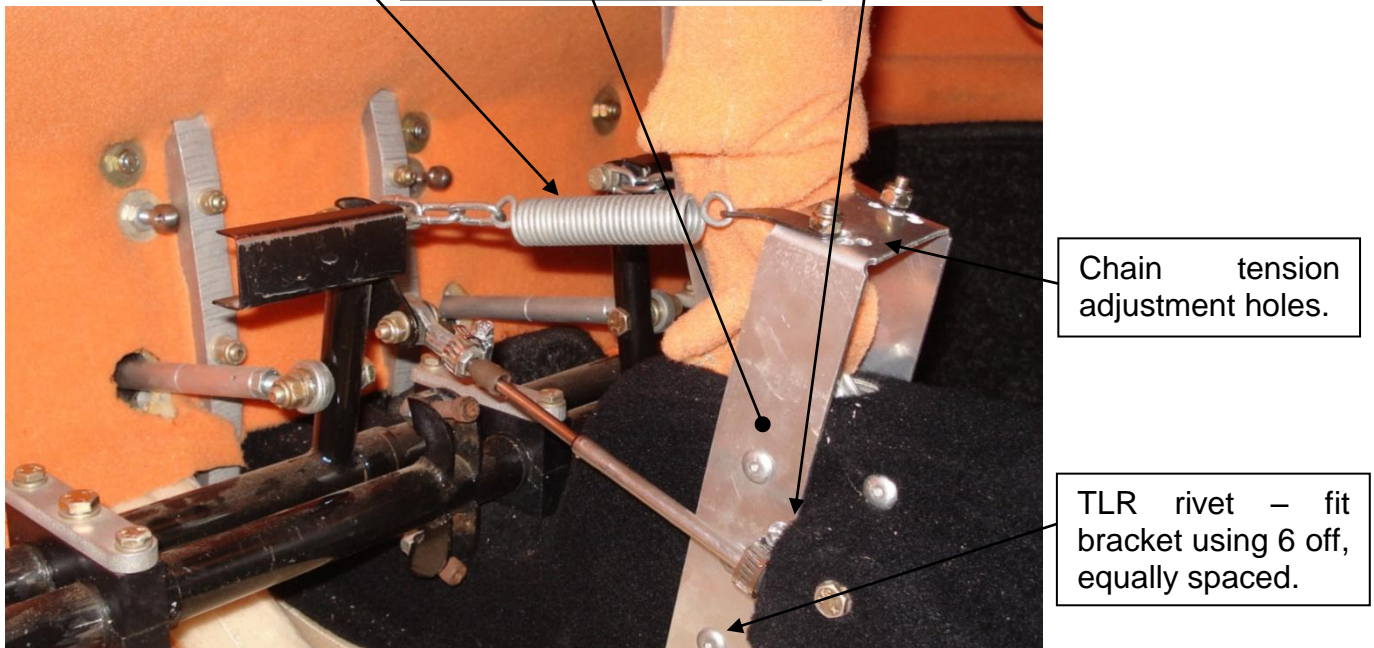

Figure 2 – New Rudder Centring Springs
- Fit the new spring mounting bracket to the aircraft's centre console using 6 off TLR rivets as shown in Figure 2. The exact position is not critical – but it should be aligned with the front of the rudder cable mount and positioned so that the chains and springs run as straight as possible.
- Fit the new springs as shown in Figure 2. Adjustment of these springs is important for correct handling of the aircraft. The springs must be set so that when the rudder pedals are centered neither spring is carrying any load – but as soon as the pedals move slightly a spring takes up tension. If the springs are set too tight – i.e. when the pedals are centered both springs are carrying some tension – this will reduce the centring effect of the spring system and must be avoided. If the springs are set too loose the pedals must move too far before there is any centring effect – this makes the system ineffective near centre and must also be avoided.